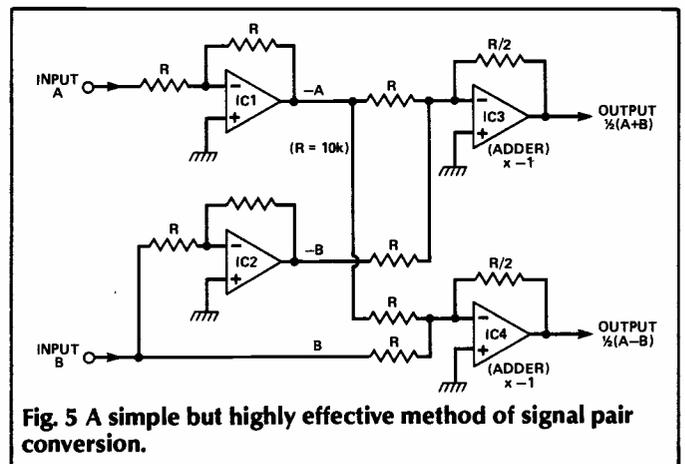

Fig. 5 A simple but highly effective method of signal pair conversion.
**Fig. 5** A typical 45-50W valve output stage in which a fixed bias voltage is tapped off of the HT chain or derived from a separate bias winding. The advantages include a low output impedance and hence high damping factor but the distortion figures suffer.
A simple, high quality method of signal pair conversion is shown in Fig. 5. In this the incoming signals (labelled 'A' and 'B') are phase inverted by input buffers IC1 and IC2, and combined in the mixer stage IC3 to give the required  $(A+B)/2$  signal. The B signal, without phase inversion, is added to the '-A' signal in the mixer stage, IC4, to give  $(A-B)/2$  at the output. The same matrix could be used as the receiver adder stage (Fig. 6).